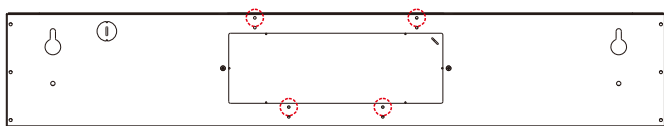

Fig.3
- If the gap between cabinet and rear exhaust= 3/8in use 4 screw holes(Fig.3)